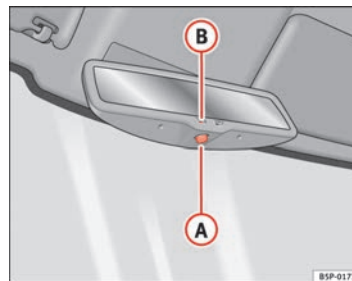

Fig. 67 Automatic anti-dazzle interior rear vision mirror.
- Press button **A** ⇒ Fig. 67. Control lamp **B** goes off.
- Press button **A** ⇒ Fig. 67. Control lamp is lit.